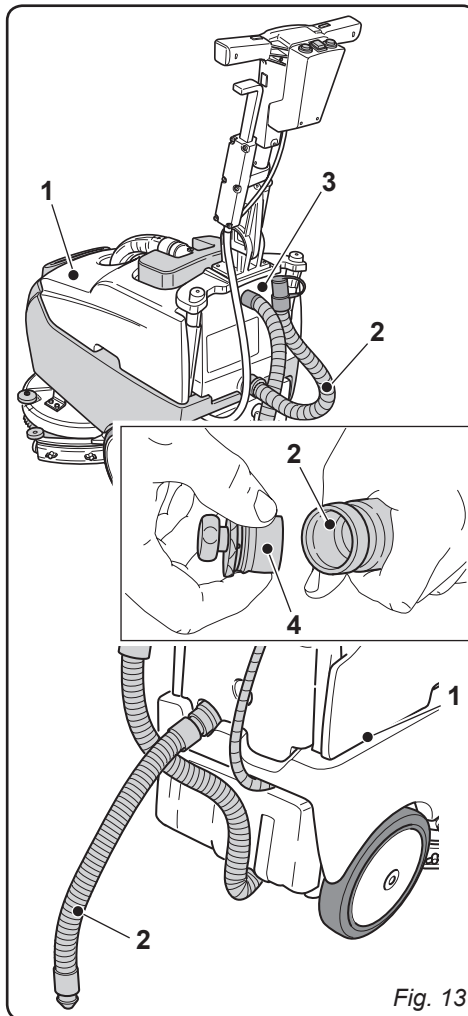

Fig. 13
10.1 DESCARGA DAS ÁGUAS SUJAS (Fig. 13)